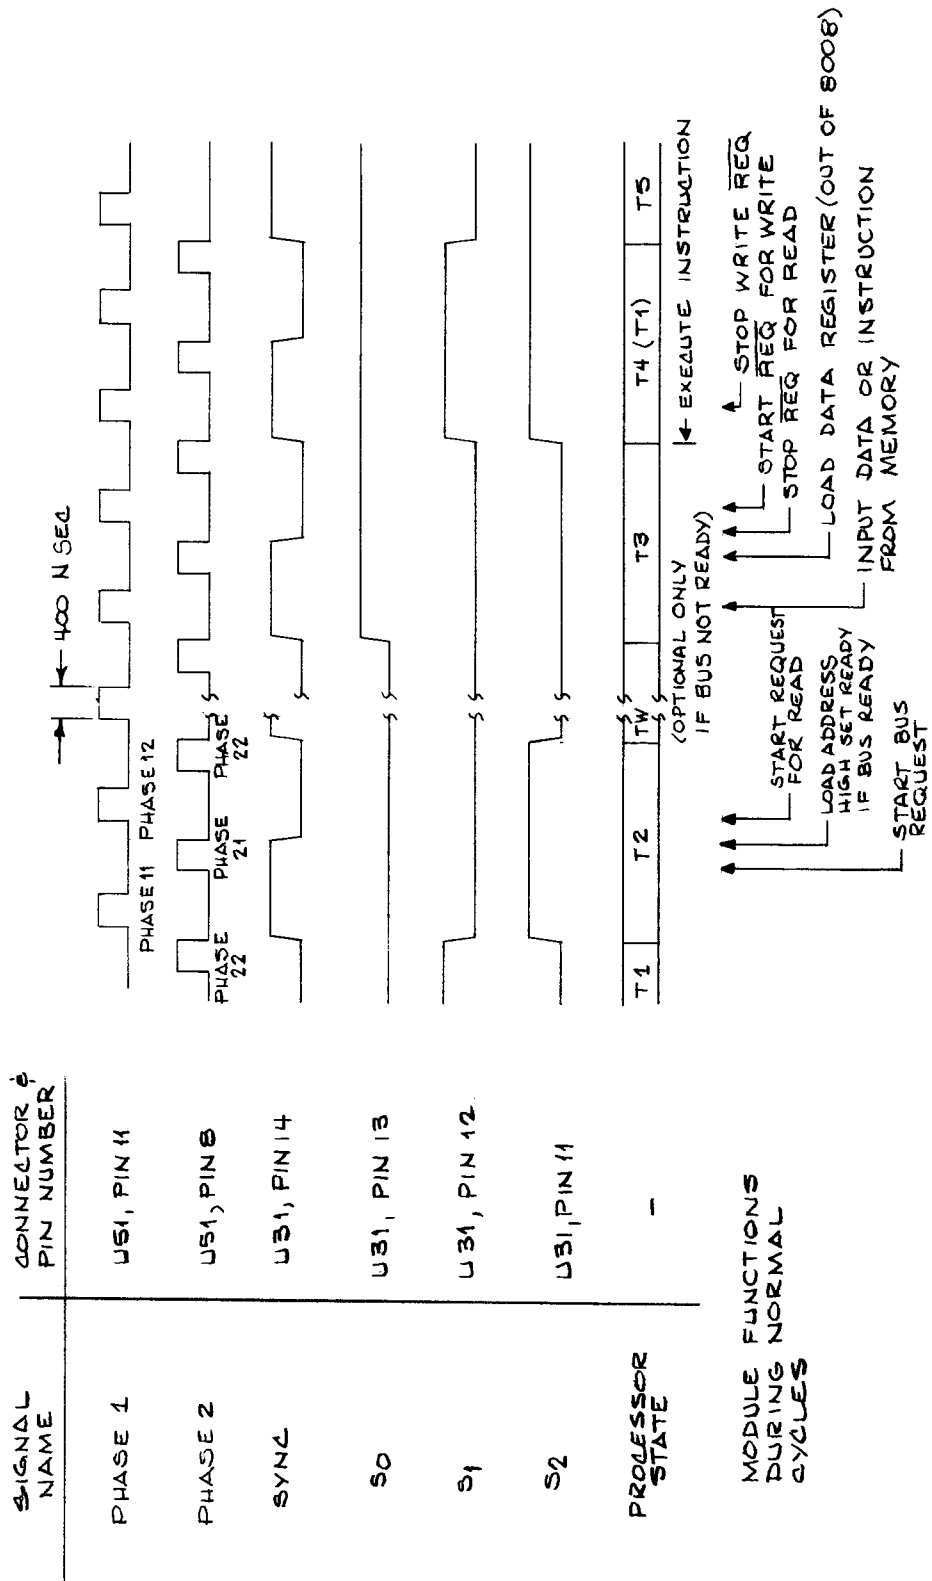

Figure 3
3.1.2.3 Processor states. The state outputs S2, S1, and S0 encode eight microprocessor states as illustrated below. These states are one T-cycle (or 2.8 microseconds) and indicate to the module processor state decoder logic what the processor is doing. States T1 and T2 are used to output lower and upper address bytes. State T3 is instruction fetch or data in or out and states T4 and T5 are used to execute instructions. wait is a special state entered when the READY line is not high in time for the microprocessor to enter the T3 state. This allows the Processor Module to synchronize with the terminal bus and perform single step operations during program development. State T1I is a special Interrupt state which is entered only when a halt instruction is executed. Stopped is the processor state entered after a halt instruction and is used to force the module into a power on sequence to prevent the microprocessor from dying unexpectedly. (Refer to figure 3 for processor state timing information.)
- 3.4.2.4 Bus cycle end. The bus cycle state counter enters the Access Complete state when flip-flop "C" is reset by REQUEST STOP and flip-flop "E" being set (Request state). REQUEST STOP is high when a write is in progress at PHASE 11 and when a read is in progress at PHASE 12 of processor state T3 (Refer again to figure 3 for processor state timing information). After flip-flop "C" is reset, the bus cycle logic goes to the Release state ( $\overline{\text{REQ}}$  is brought high) and then to the Idle state with flip-flops "D" and "E" being reset on the next two clocks. The state counter is in the Idle state and the bus has been released.